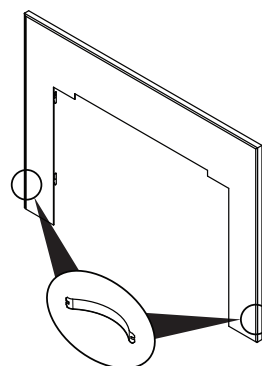

Figure 21.4
6. Install two steel springs on each side of the flat surround towards the bottom and the assembled trim kit (Figure 21.4).